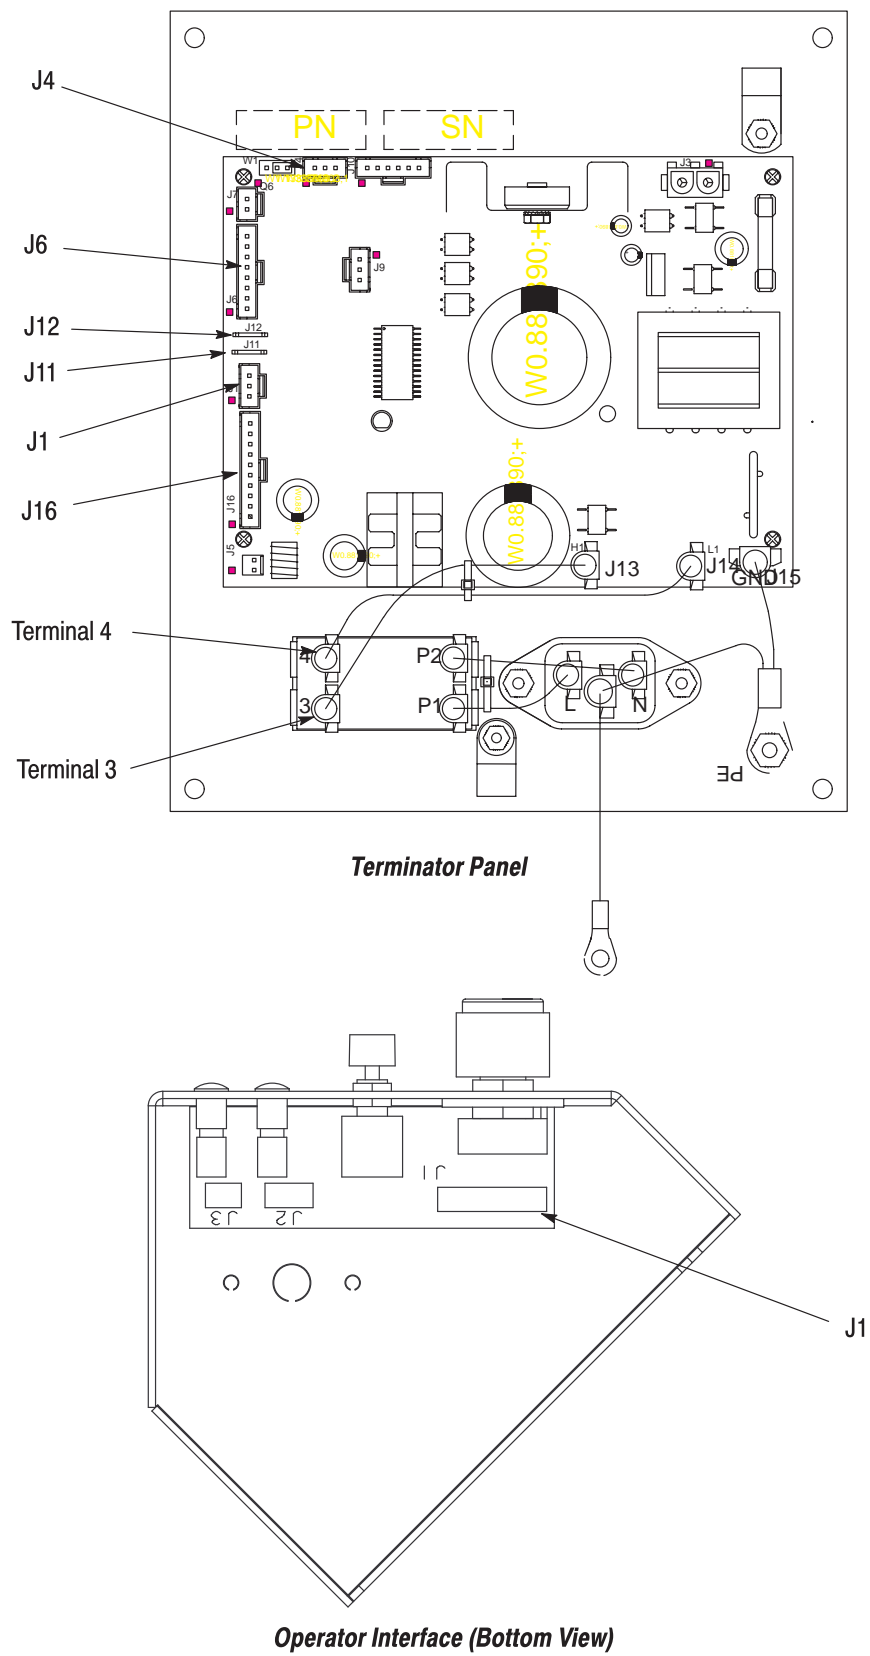

Figure 5
5. Disconnect the cables going to the terminator board at J11, J12, J4, and J6. See Figure 5. Completely remove the footswitch cable, clamp, and ground wire from the terminator board.
6. Disconnect the wires connecting to the terminator main power switch at terminal 3 and terminal 4 (Figure 5).